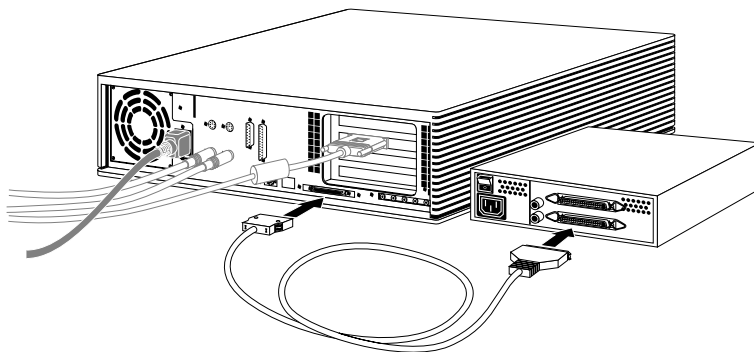

Figure 5-8 Connecting an External SCSI Device to the Indigo² Chassis
- If you are attaching the device to the workstation, use the cable that has a different connector on each end. Attach the flat, smaller end of the cable to the SCSI port on the workstation, as shown in Figure 5-8.